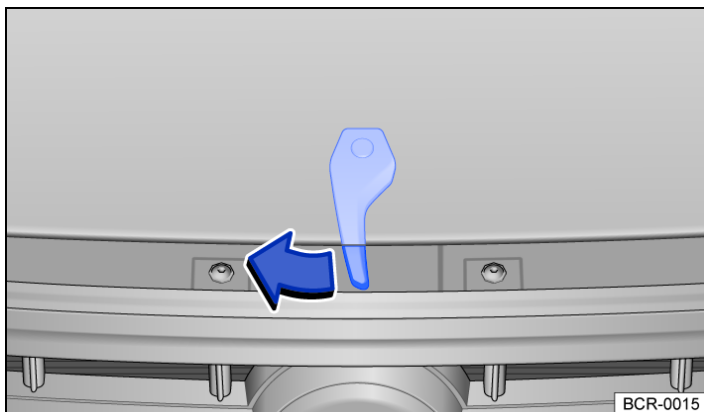
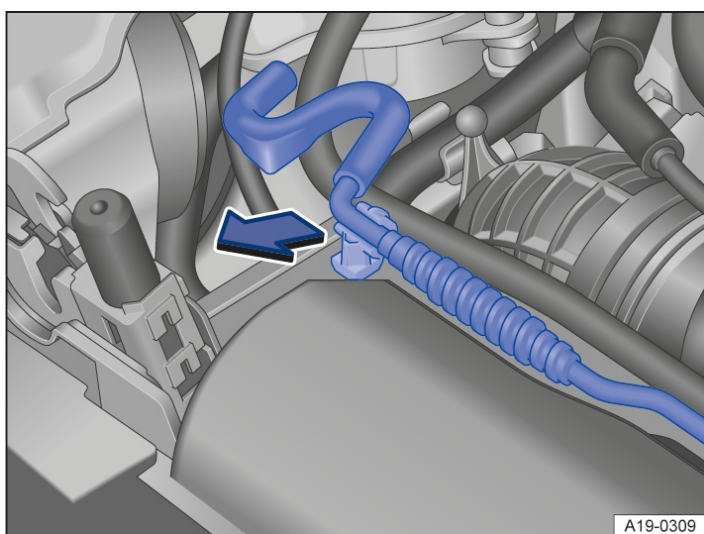
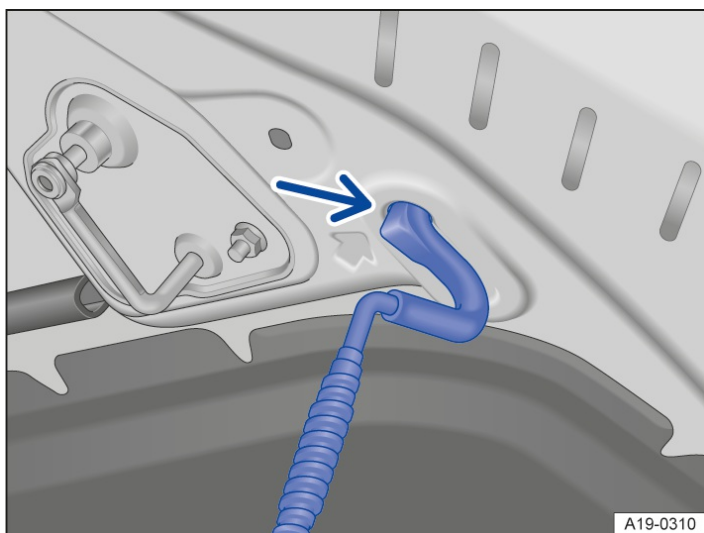

Fig. 2 Above the radiator grille: bonnet control lever.
Fig. 3 In the engine compartment: bonnet stay in the holder.
Fig. 4 On the bonnet: holder for bonnet stay (schematic diagram).
- Raise the bonnet slightly and at the same time press the control lever in the direction of arrow → *Fig. 2* to fully open the bonnet.
- Take the bonnet stay in the direction of arrow out of its holder → *Fig. 3* and push it into the opening → *Fig. 4*.
- Unhook the bonnet stay from the opening → *Fig. 3* and push it into its holder → *Fig. 2*.